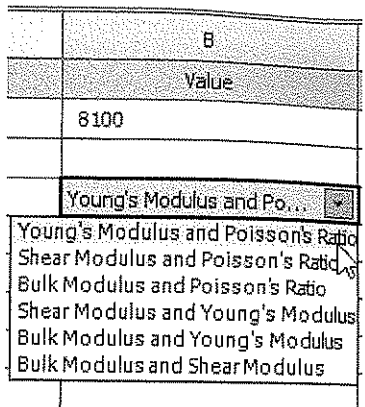

Figure 6-16 Selecting the Young's Modulus and Poisson's Ratio option the drop-down list
- 13. Select **Young's Modulus and Poisson's Ratio** from the drop-down list, if it is not already selected, as shown in Figure 6-16.